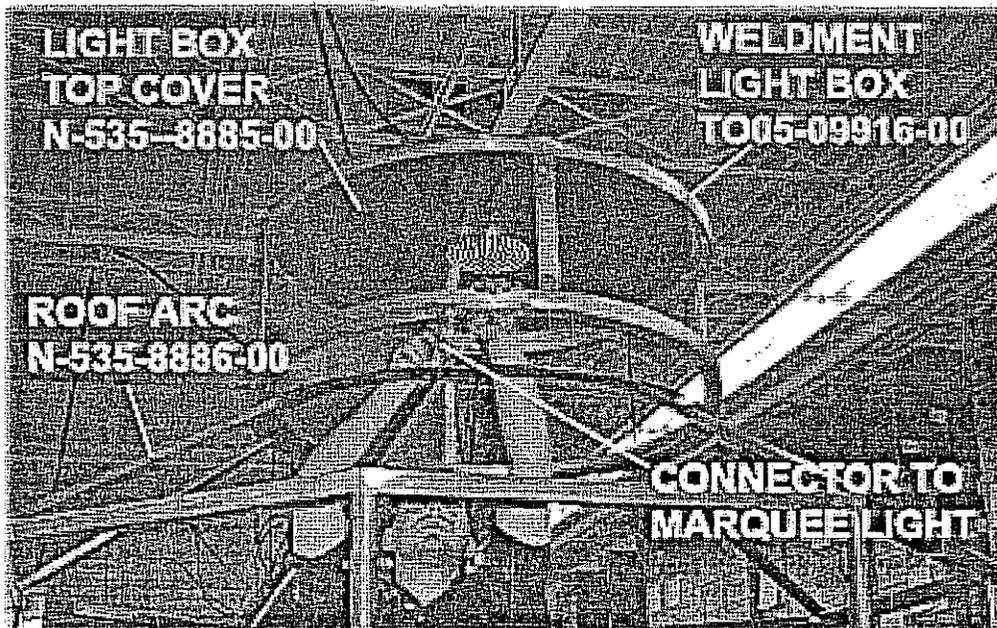

Figure 22
3. Identify the marquee. Lift the marquee into place on top of the roof section, being careful to line up the harness and plugging the connectors together as you position the marquee into place. The marquee will only fit one way due to the bolt hole pattern. Use enough people to avoid injury. (See figure 22).